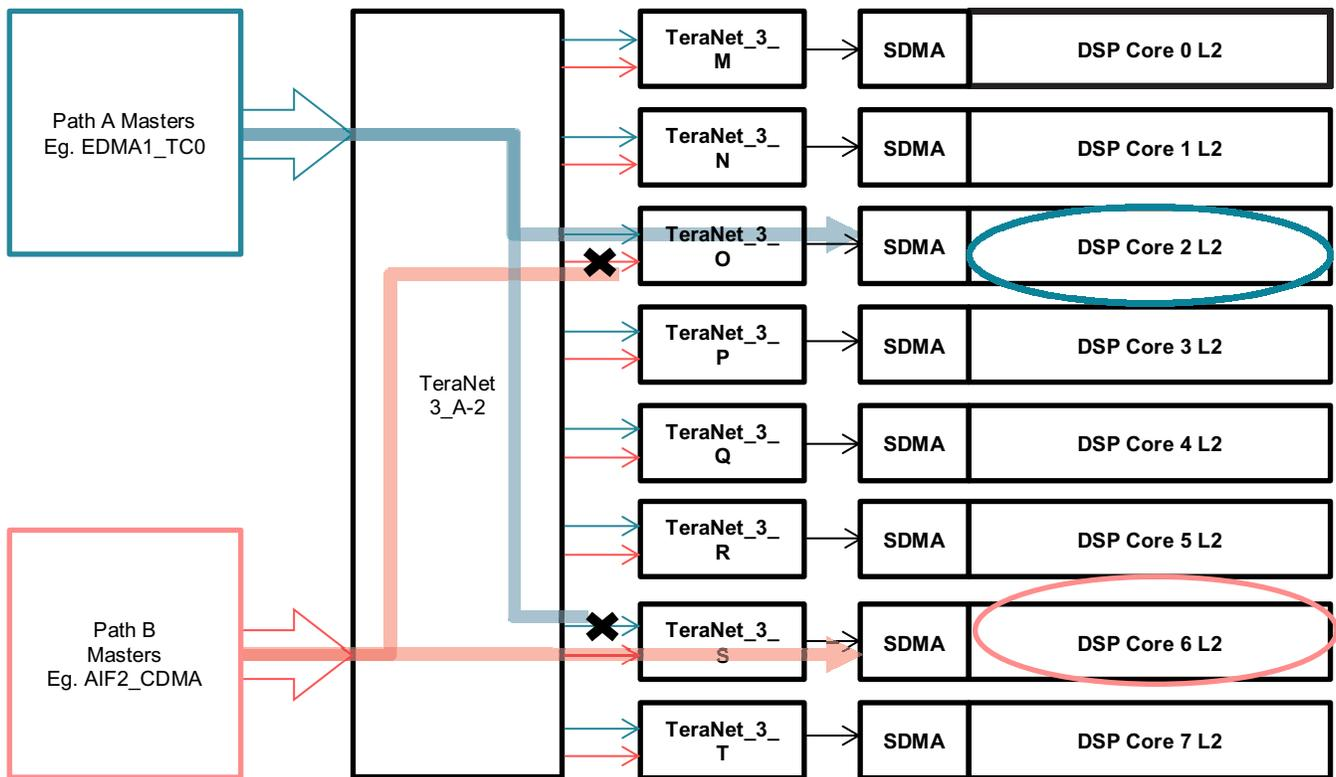

Figure 8. Workaround 1
- For example, for TCI6638K2K (see Figure 8) for affected slave end point SDMA ports of core 1,2, 6,7.